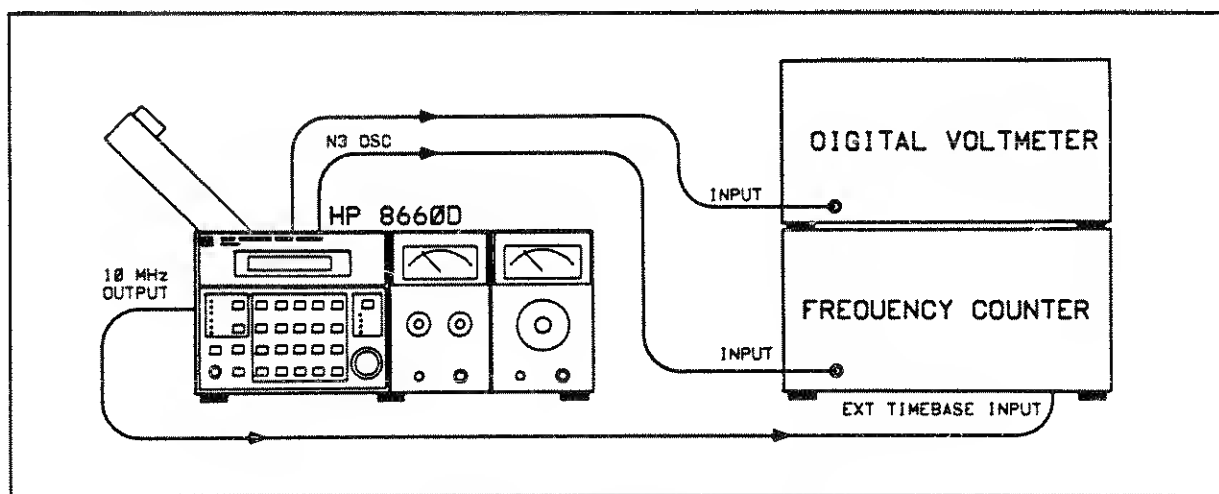

Figure 5-20. N3 Loop Test Setup
1. Set up test equipment as shown in Figure 5-20.